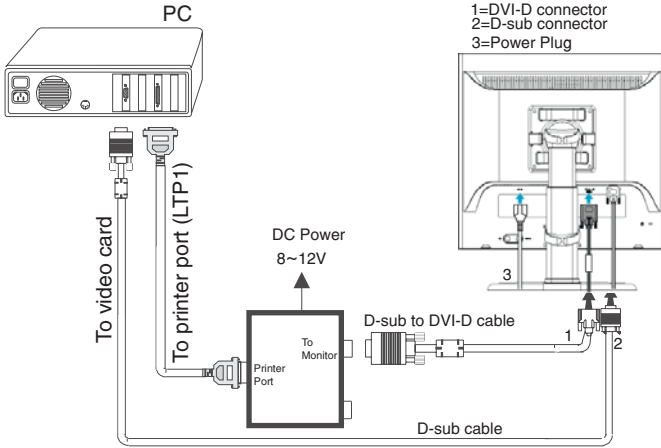

Fig. 31
Step 1: After initialize alignment box, connecting all cables and box as shown in Fig. 31.